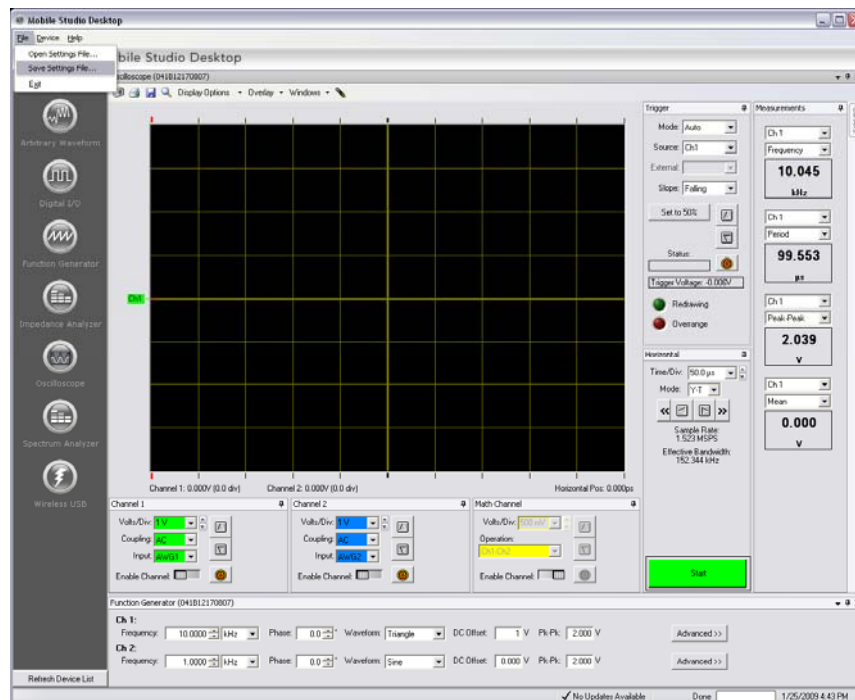

Figure 2.2: Save Settings File
- 5) For the ability to have specific settings automatically opened with the program, click on “File → Save Settings” as shown in Figure 2.2 below.